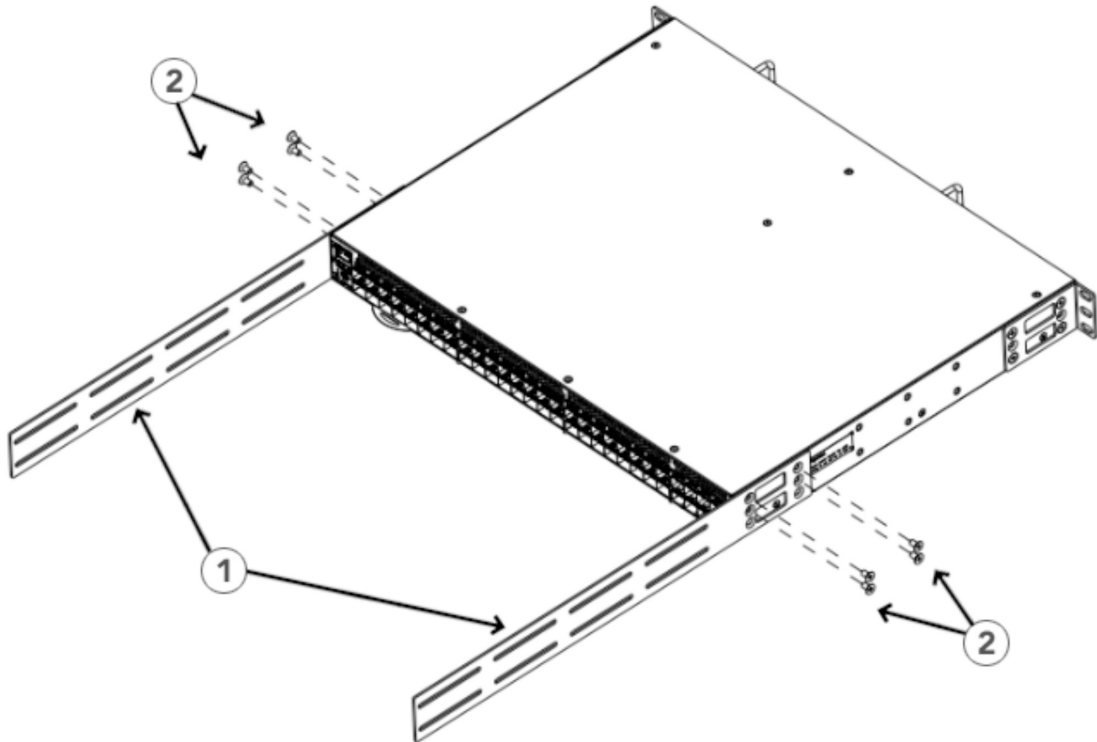

Figure 11. Attaching the bracket extensions to the device
2. Position the right extension along the side of the device as shown in Figure 11 on page 21.